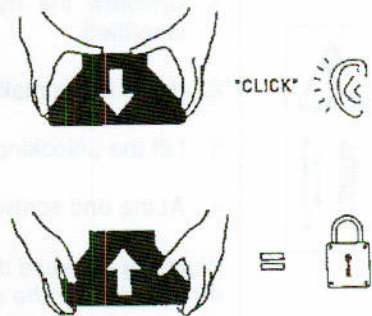

fig. 2
2. Handling the rotor with 2 hands, push it on the drive shaft until you hear "click". Only after having heard "click" you will be sure to have correctly assembled the rotor (see fig. 2).